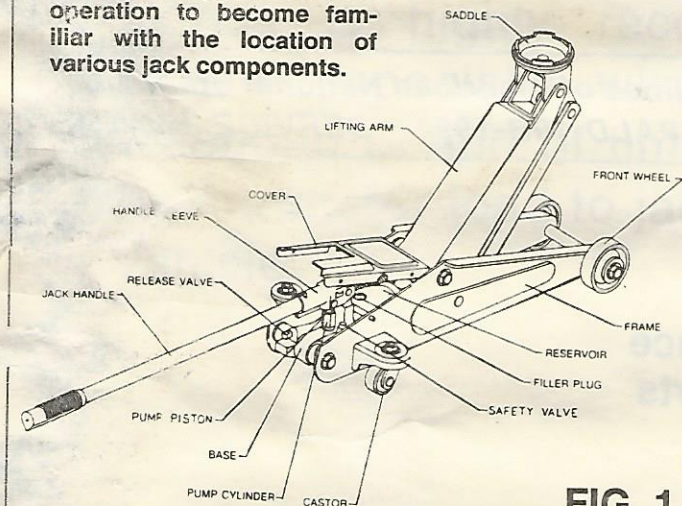

FIG. 1
- Open the release valve by turning the jack handle (See Fig. 1) counter-clockwise.
- With notched end of the jack handle (See Fig. 1) close release valve by turning the handle clockwise.
- Refer to the vehicle manufacturer owners manual to locate approved lifting points on the vehicle. Position jack so that the saddle (See Fig. 1) is centered under the load at an appropriate lift point.